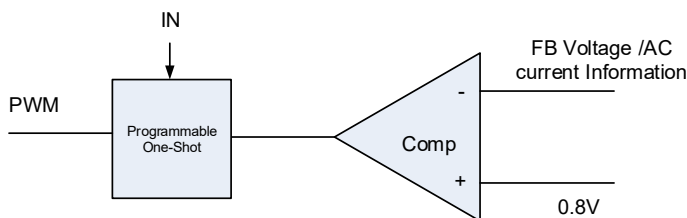

Figure 3. Simplified Control Schematic of AOZ22421QI
The control algorithm of AOZ22421QI is constant-on-time PWM Control with input feed-forward. The simplified control schematic is shown in Figure 3. The high-side switch on-time is determined solely by a one-shot whose pulse width can be programmed by one external resistor and is inversely proportional to input voltage (IN). The one-shot is triggered when the internal 0.8V is higher than the combined information of FB voltage and the AC current information of inductor, which is processed and obtained through the sensed lower-side MOSFET current once it turns-on. The added AC current information can help the stability of constant-on time control even with pure ceramic output capacitors, which have very low ESR. The AC current information has no DC offset, which does not cause offset with output load change, which is fundamentally different from other V² constant-on time control schemes.